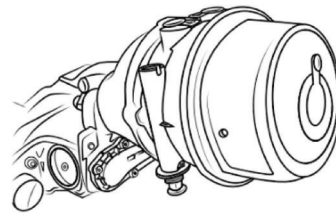

Figure 41 - Parking break chamber
2. Remove the dust plug from parking brake chamber (**Figure 41**).